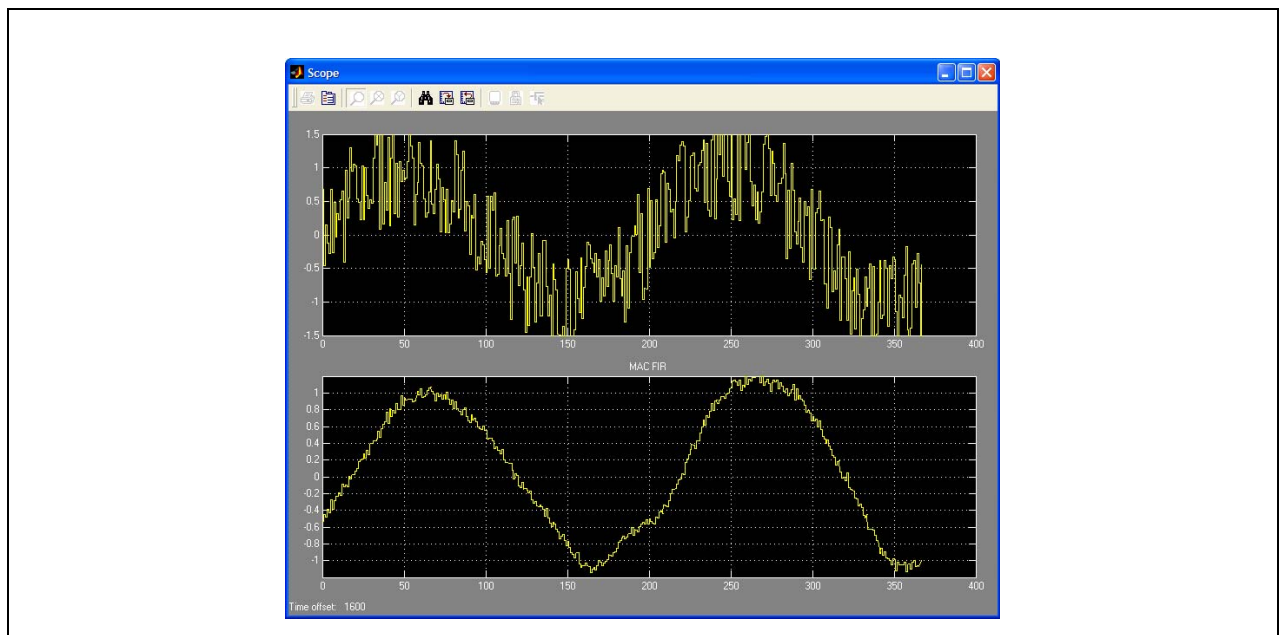

Figure 123: Scope Waveform
3. Simulate the model by clicking on the 'Start simulation' Icon shown right. At this point, without modifying the model, you should be able to see the plot shown in Figure 123 on page 202.